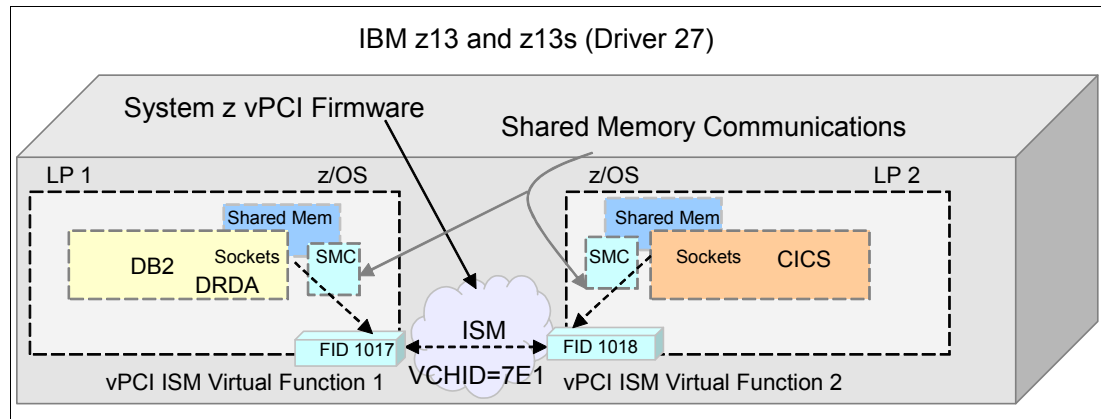

Figure D-17 ISM adapters shared between LPARs
Example D-2 shows IOCP FUNCTION statements that describe the configuration that defines ISM adapters shared between LPARs on the same CPC as shown in Figure D-17.
**Note:** On the IOCDs statement, the VCHID is defined as 7E1. In Figure D-17 on page 522, the ISM network “PNET 1” is referenced by the IOCDs VCHID statement. ISM (just like IQD) doesn’t use physical cards or card slots (PCHID), but only logical (firmware) instances that are defined as VCHIDs in IOCDs.